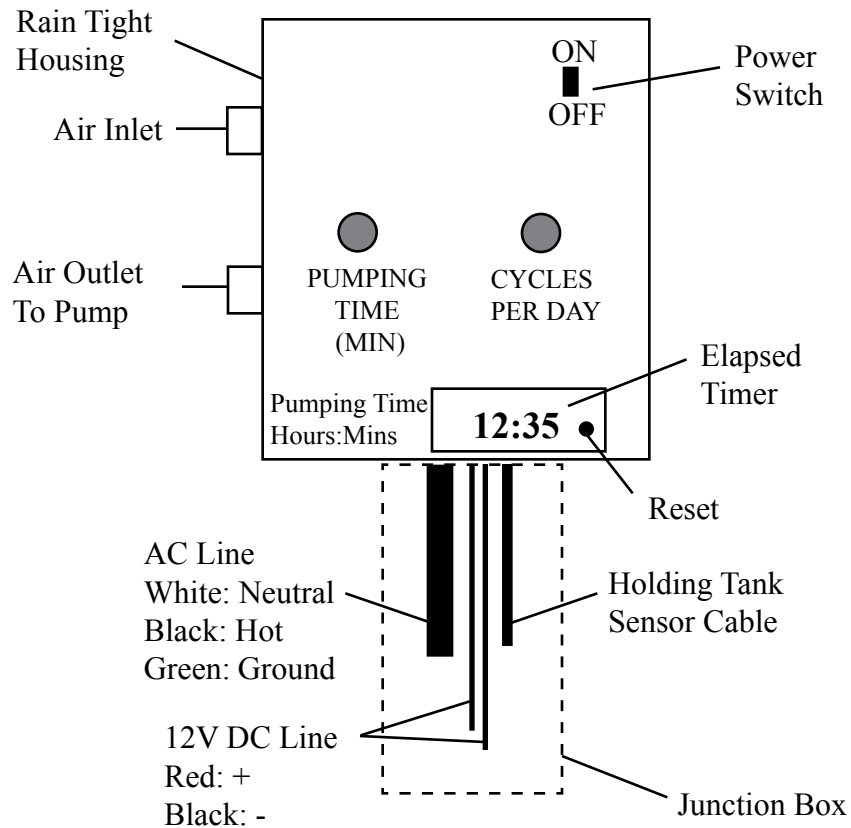

Figure 3
STEP 1. Mount electronic Controller Model 2500ES (Figure 3) in a vertical position near the air source, power source, and holding tank if possible. **CAUTION:** The standard electronic controller is NOT intrinsically safe. If this controller must operate in a CLASS I area, the XITECH Model 2550ES CLASS I controller will be required. Air supply needs to be free of WATER and OIL to have minimum maintenance. **NOTE:** The ON/OFF switch inside the controller is for AC and DC power.
STEP 2. Install holding tank shutoff assembly into holding tank (a 2" standard pipe inlet will be required in the holding tank). The level of product in the holding tank can be set by raising or lowering the liquid level float switch rod. Wire the shutoff switch cable into the controller (Figure 3). **NOTE:** If additional signal cable is needed to position the holding tank assembly further away from the controller, use 18 gauge 2-conductor wire.
STEP 3. Attach power line from the AC or DC power source to the controller (Figure 3). Turn on the controller power switch. If the red "Product Tank Full" light stays on, you have a problem with tank shutoff wiring. Turn off the power switch and re-check the tank shutoff wiring. If the light continues to stay on, call the factory.